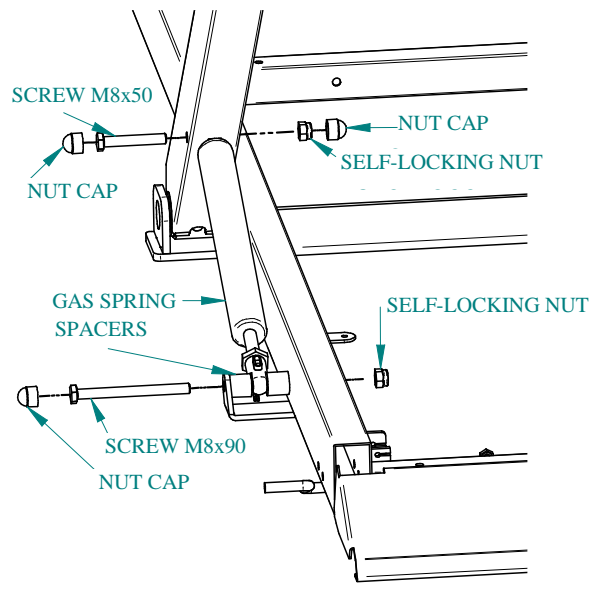

Fig. 2
4. Install the gas springs on the uprights from both sides: tighten the self-locking nut, leaving the spacers free to rotate (Fig. 2).